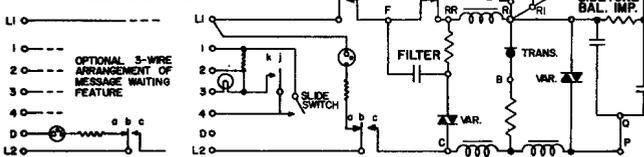

FIGURE 1. DIAGRAMS 701--(L)37- TELEPHONE AND 701--(L)38- TELEPHONE
- 1.02 The installed telephone must be provided with a separately mounted external ringer. See Figure 1 for a wiring diagram.
- 2.03 When a ringer is required, any ringer including the specially designed ringers for this series of telephone may be used. See Figure 1 for ringer wiring diagram. Types 136, 137, 138 and 139 are recommended.